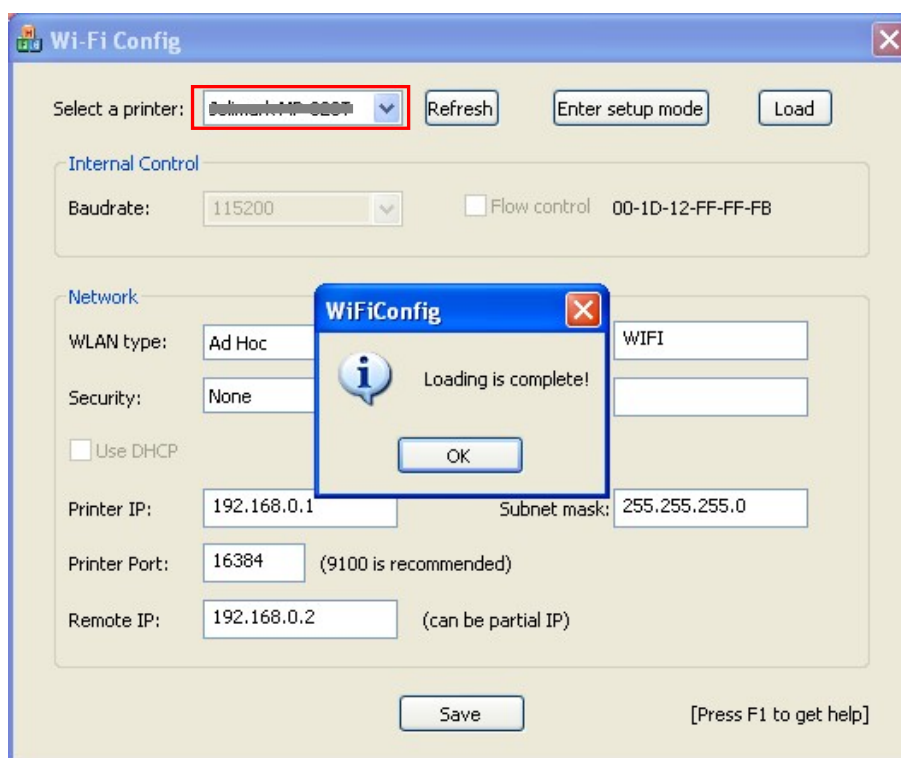

Figure 3
- Click “Load”, the computer will load the information of the printer and display it on the WiFiConfig software. Click “OK” in the dialogue box “Loading is complete” that pops up. (As figure 3 shown)